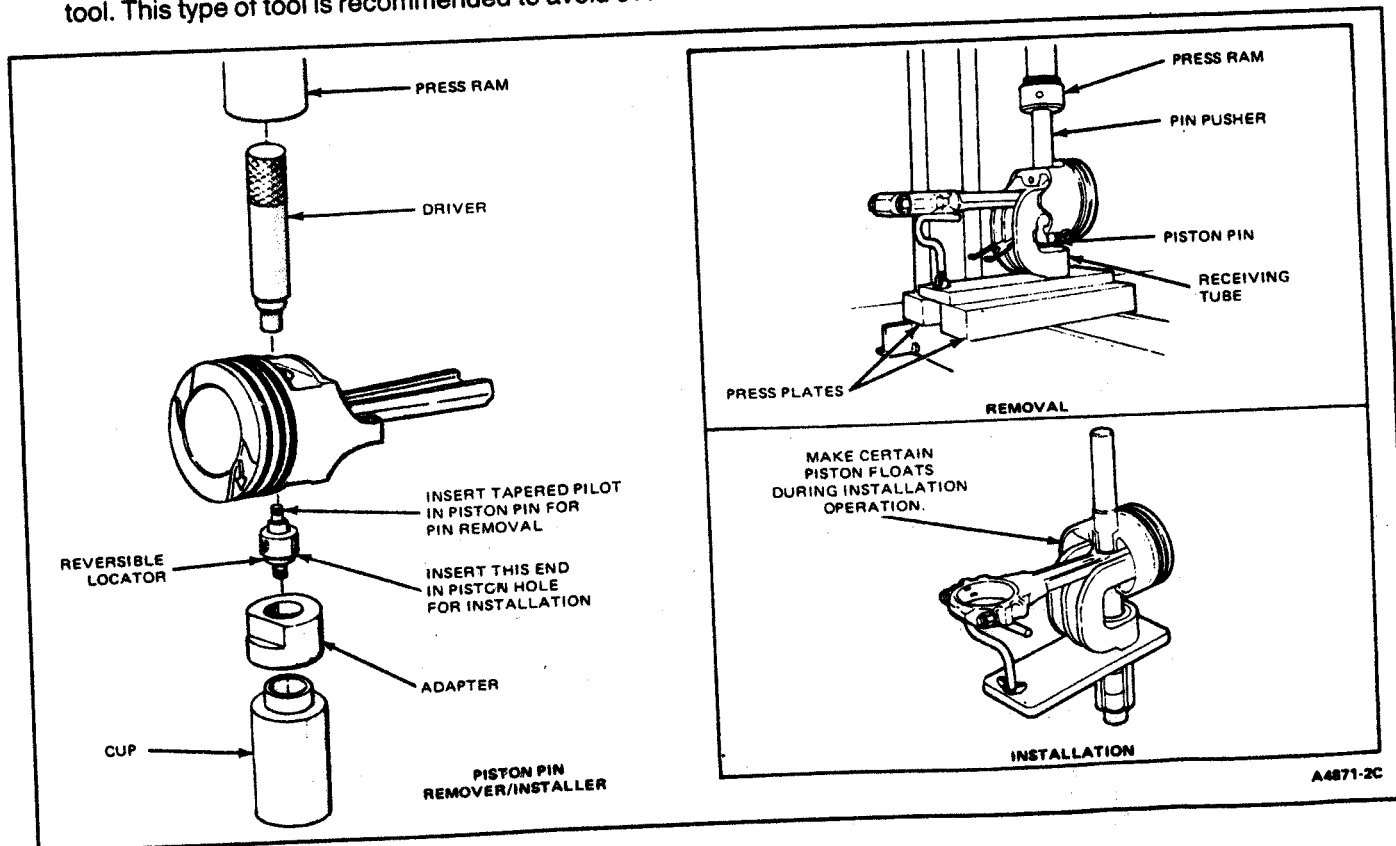

FIG. 83 Removing Piston Pin
4. Heat piston in boiling water or piston heater and after placing piston in vise, drive pin from assembly with T68P-6135-A (Fig. 83) or brass drift and plastic tipped hammer.